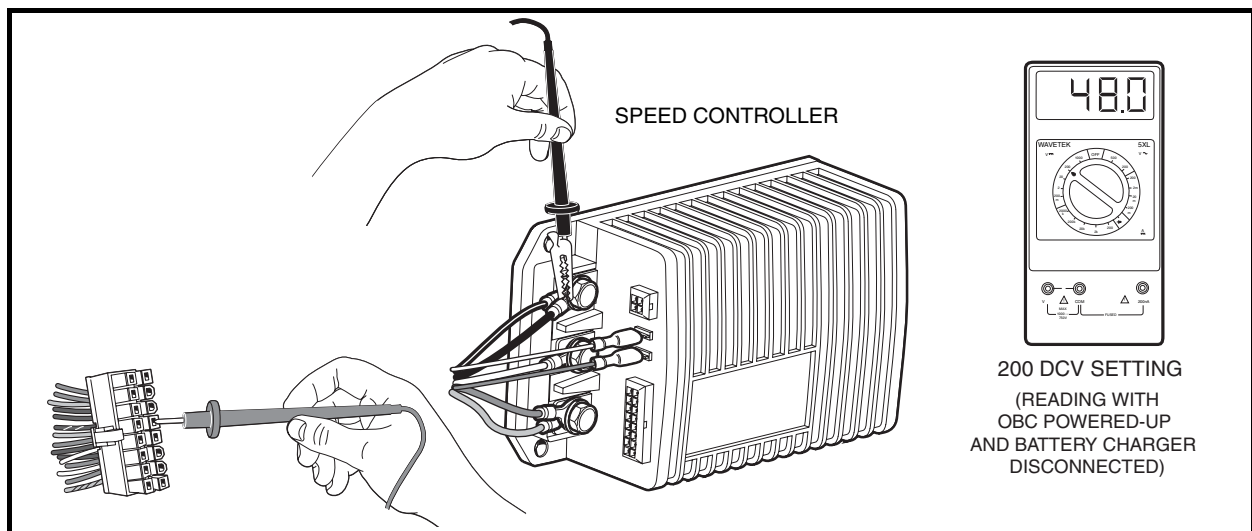

Figure 11-14 Pin 5 Test
4. Set a multimeter to 200 volts DC. Insert the red (+) probe of the multimeter into pin 5 (light blue wire) of the 16-pin connector. **See following CAUTION.** Using an alligator clip, connect the black (–) probe to the B– terminal of the speed controller (**Figure 11-14, Page 11-28**).